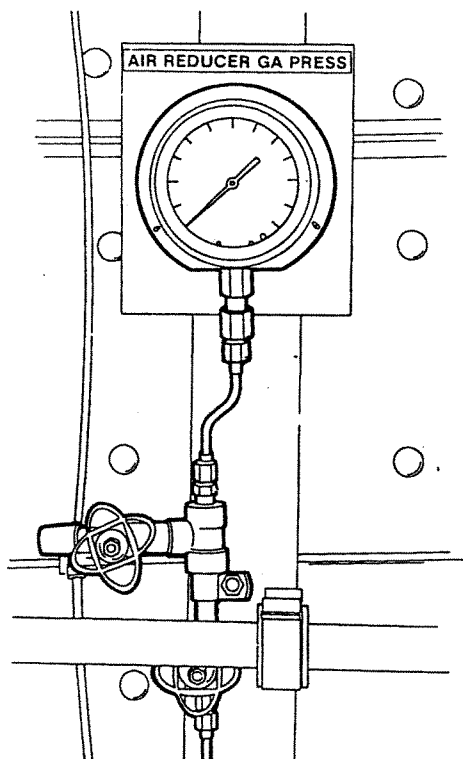

Figure 4-12. Air Reducer Pressure Gage
2. Open air supply valve in low pressure purge line. Install air hose on valve and check air pressure at gage (Figure 4-12). Pressure at air hose should be 25 PSI.
3. Check air pressure at gage (Figure 4-12).